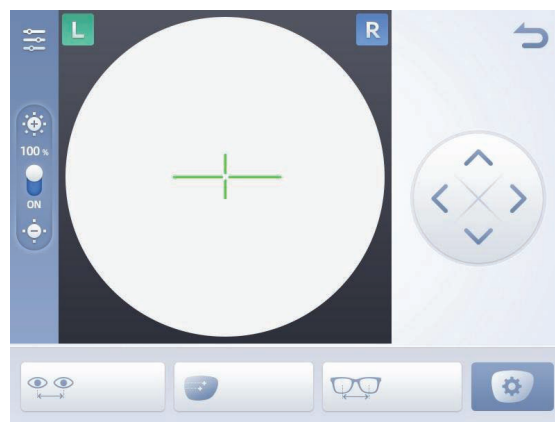

Figure 10
2. Press the pupil distance adjustment key and then press the setting key, the number keyboard will pop up, input the pupil distance value, pupil height and frame center distance value input operation is the same as above. You can also use the right cross keyboard to offset the light center cross mark. As shown in Figure 10 on the right